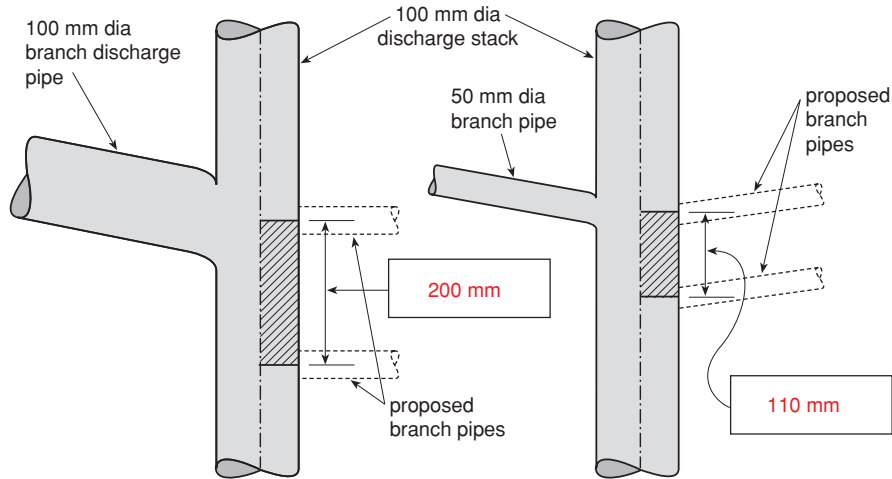

Figure 29
(73) With reference to Figure 29, in the spaces provided, give the minimum distances which need to be maintained for the proposed discharge pipes in order to avoid cross-flow of effluent from one discharge pipe into another. (Page 311.)